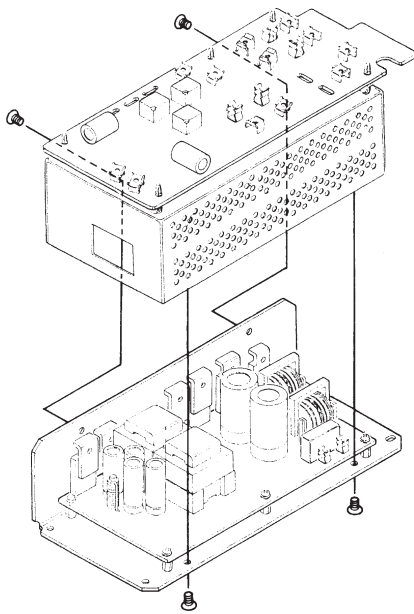

Figure 3
- ❑ Referring to Figure 3, remove the four screws and remove the heatsink from the Switching Regulator Unit.